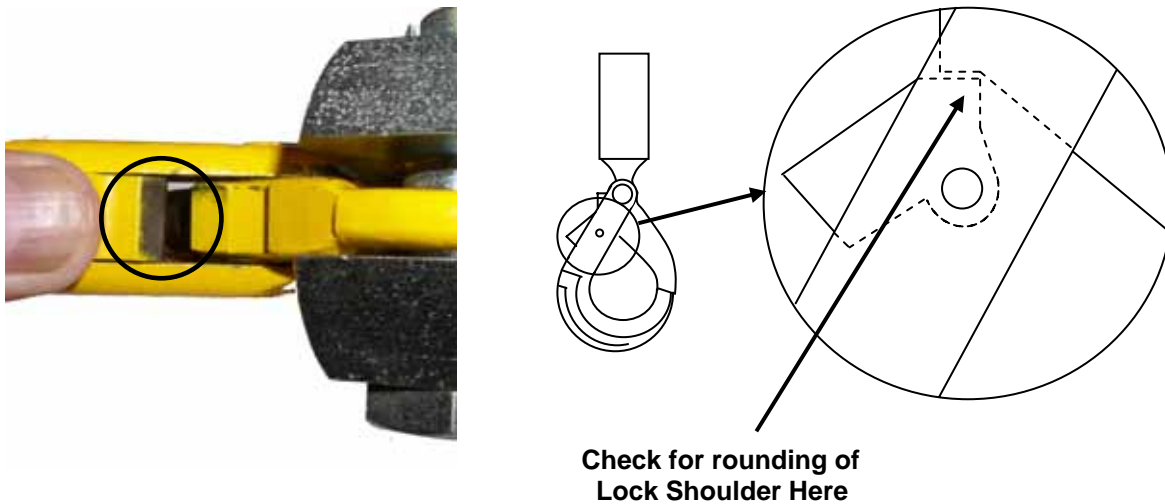

Figure 5. Examine Gate Lock Latch for rounding.
- iii. Examine lock latch for rounded edge, see Figure 5.
- v. Ensure lock latch pin is secure and flush with the latch, see figure 5. If latch is damaged, does not operate as required, missing hardware, or does not meet dimensional requirements remove from service. See H. Salvage.